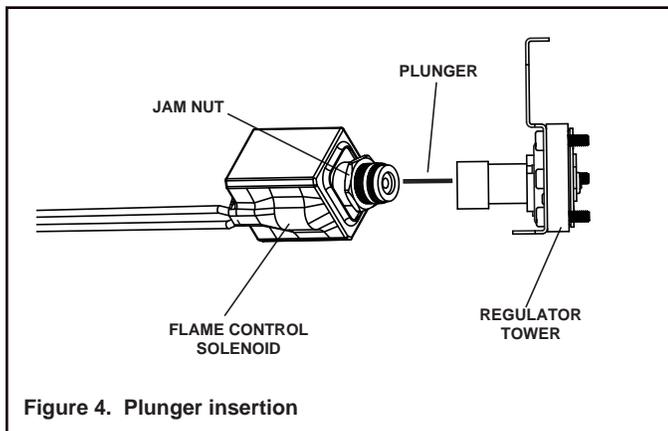
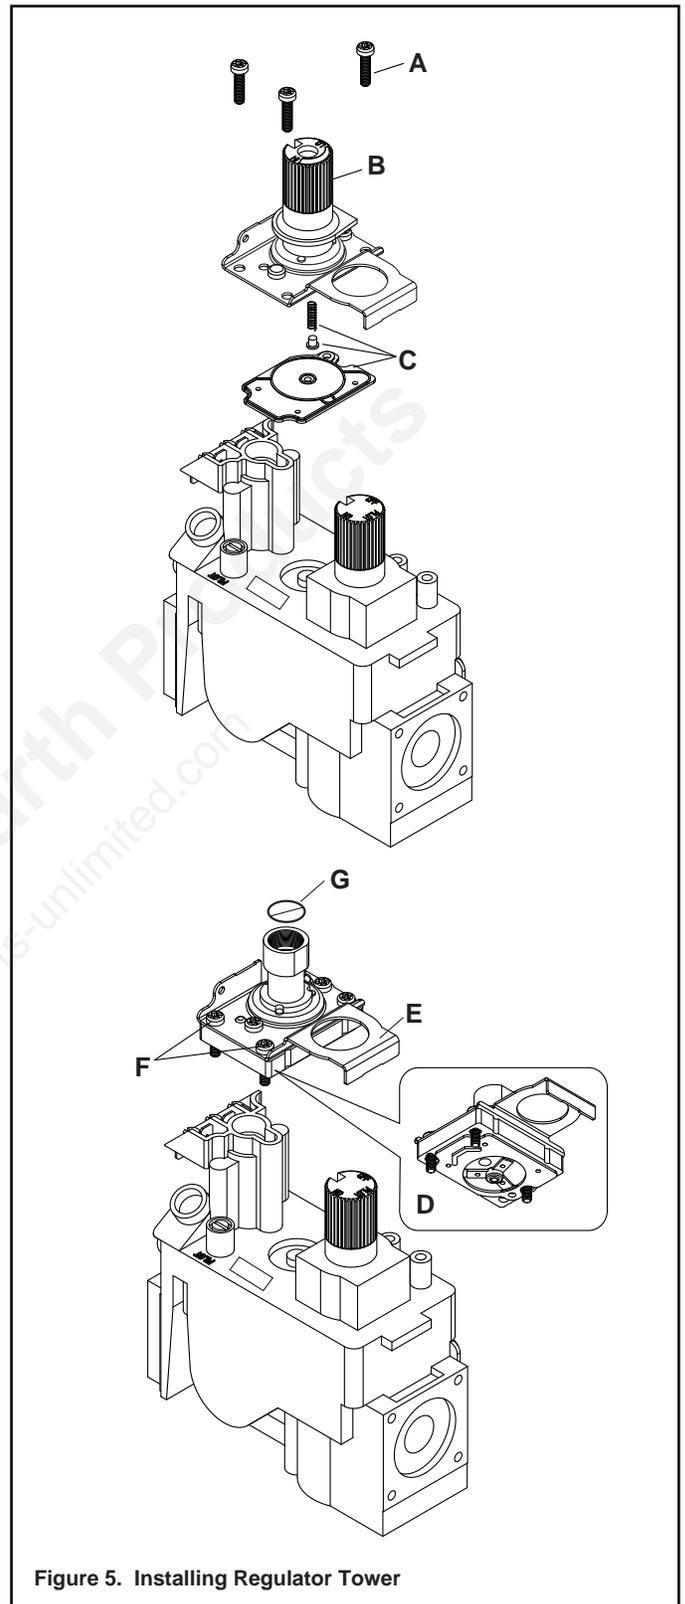
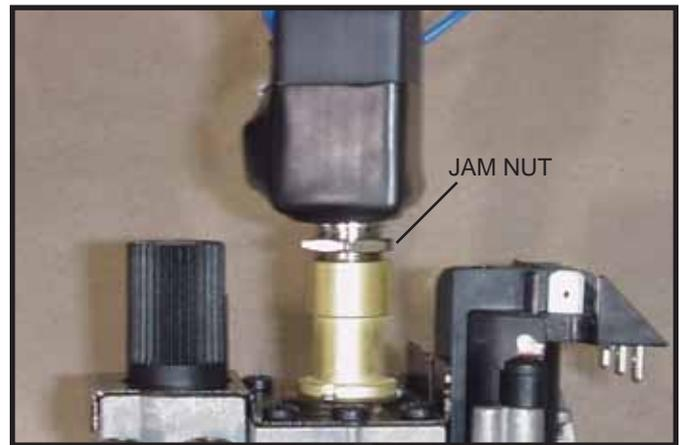

Figure 4. Plunger insertion
Figure 5. Installing Regulator Tower
Figure 7.
1. Using a Torx T20, or slotted screwdriver, remove and discard the three pressure regulator mounting screws (A), pressure regulator tower (B), and the spring and diaphragm assembly (C) See Figure 5.
2. Ensure the rubber gasket (D), which is pre-fitted as part of assembly (E), is properly positioned and install the new pressure regulator tower using the supplied screws (F). Tighten screws securely (Reference torque = 25 lb-in.) and remove cover screw (G).
3. Insert the correct plunger into the flame control solenoid (**BLUE = NATURAL GAS, RED = PROPANE**). See Figure 4.
- Install Flame Control Solenoid by turning it into the regulator tower five complete rotations clockwise. See Figure 7.
- Tighten jam nut (Figure 4 and Figure 7) to the face of the regulator tower body.